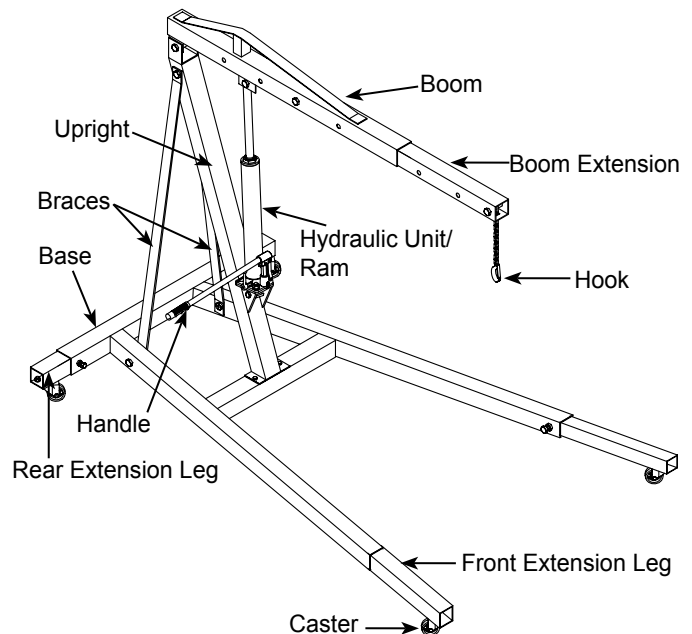

Figure 2 - Model 44020 Components
1. Make sure all parts are present (refer Fig. 2 & 4). If any parts is missing or damage, contact customer service.